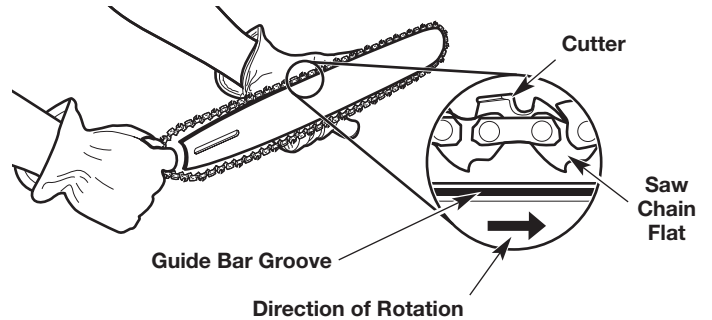
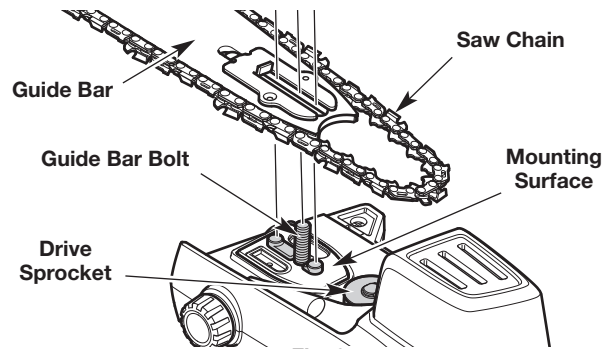

Fig. 24
Fig. 25
3. Carefully remove the saw chain and guide bar (Fig. 25).
3. Fit the saw chain into the guide bar groove (Fig. 24). Make sure the cutters point in the correct direction of rotation (Fig. 24). Keep a loop of saw chain at the back end of the guide bar (Fig. 24).
4. Hold the saw chain and guide bar together in position over the unit. Loop the saw chain around the drive sprocket and install the guide bar onto the guide bar bolt (Fig. 25). Make sure the guide bar is flush against the mounting surface (Fig. 25). Make sure the flats on the saw chain are in the grooves on the drive sprocket (Fig. 24).